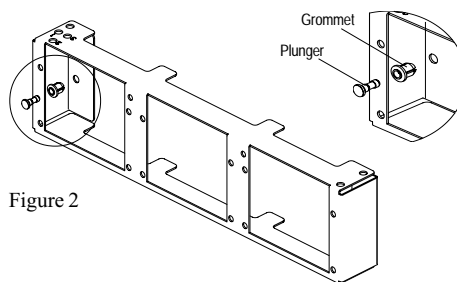

Figure 2
- Insert one grommet into each of the four holes on the inside of the bracket (see Figure 2);